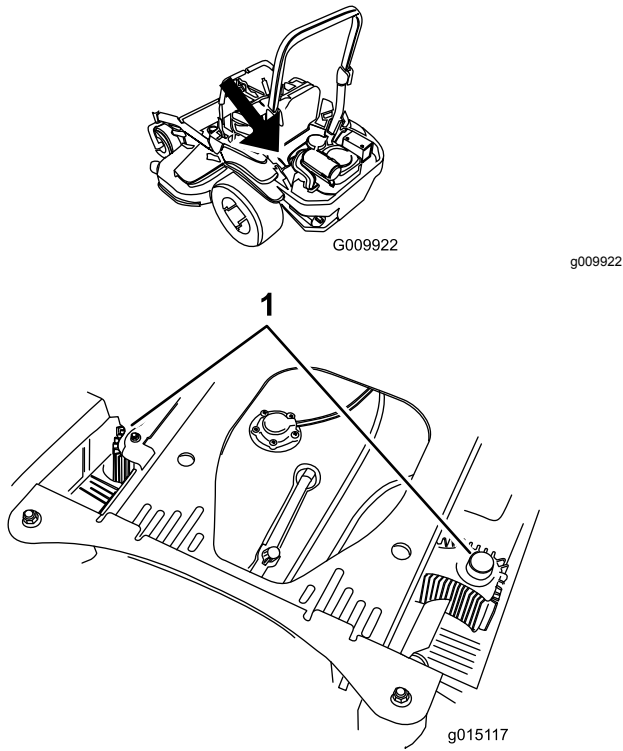

Figure 72
4. Clean the debris and grass from the hydraulic units (Figure 72).